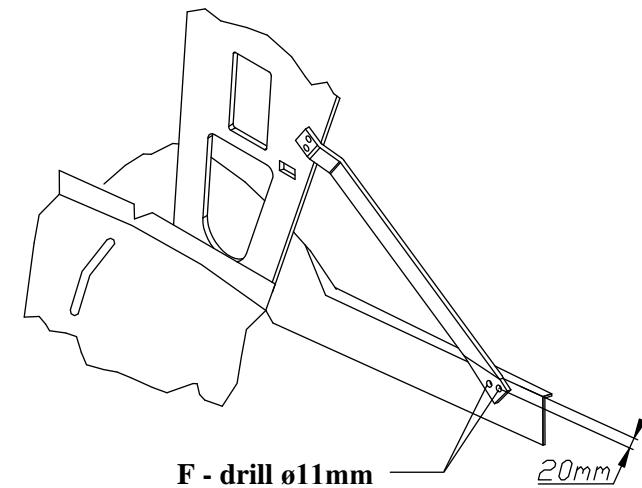

Fig. 3 Through holes F in reinforcement drill $\varnothing 11\text{mm}$, 20mm below edge of bodywork.
4. Through holes F in reinforcements drill $\varnothing 11\text{mm}$ in side part of bodywork. **NOTE!** Holes should be drill min. 20mm from upper edge of bodywork, see figure 3.